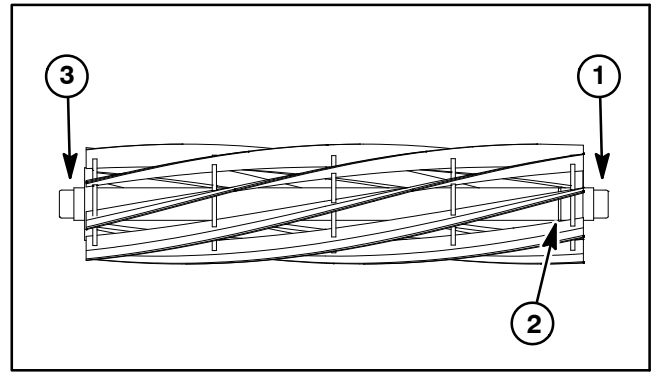

Figure 30
1. Remove reel nuts (items 5 and 6) from cutting reel. The black reel nut (item 6) has LH threads and is installed in end of reel shaft identified with a groove that is just inside of reel spider (Fig. 30).
3. Install reel nuts (items 5 and 6) into reel shaft to secure bearings. Black reel nut (item 6) has LH threads and should be installed in end of reel shaft identified with a groove that is just inside of reel spider (Fig. 30).